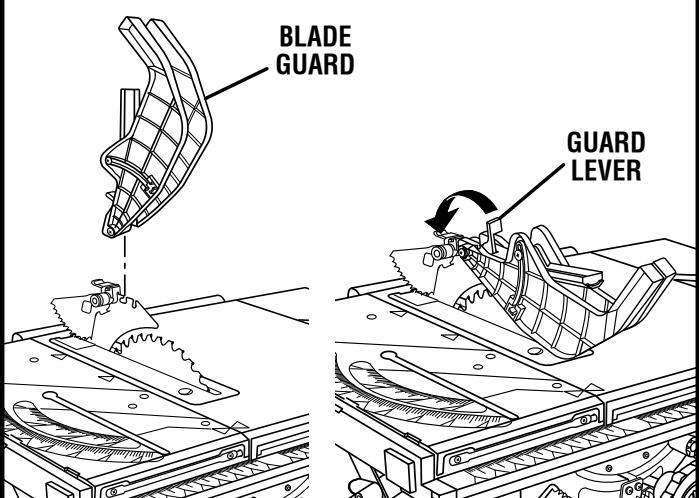

Fig. 16
- With the front of the blade guard raised, lower the back of the guard into the middle hole of the riving knife. Push the front of the guard down until it is **parallel to the table** (see figure 16). If the blade guard is not parallel to the table, the riving knife is not in the "up" position.